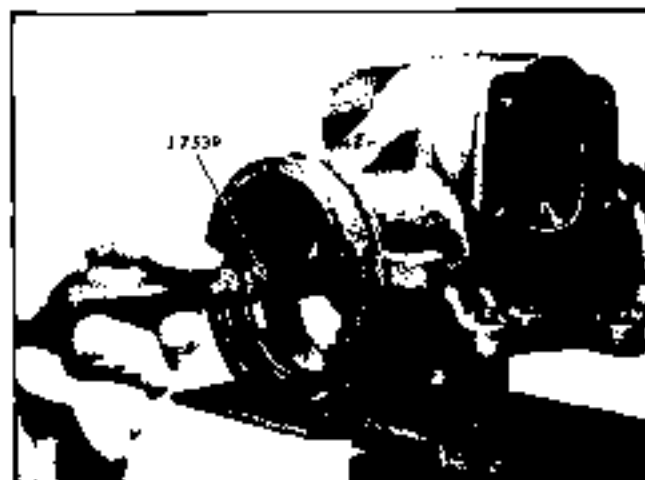

Fig. 9-59 Arbor J 7539 Against End of Steering Worm
1. Holding arbor tool J 7539 against end of steering worm, rotate stub shaft flexible coupling to left until rack-piston is free from worm (Fig. 9-59).